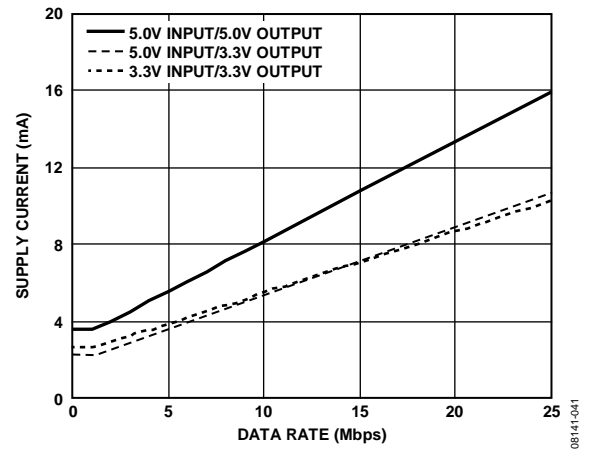
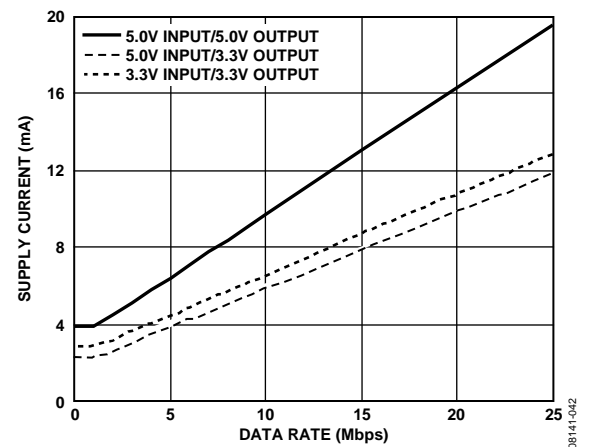

Figure 23. Typical  $I_{CHn}$  Supply Current per Forward Data Channel (15 pF Output Load)
Figure 24. Typical  $I_{CHn}$  Supply Current per Reverse Data Channel (15 pF Output Load)
Both dynamic input and output current is consumed only when operating at channel speeds higher than the refresh rate, f. Each channel has a dynamic current determined by its data rate. Figure 23 shows the current for a channel in the forward direction, which means that the input is on the primary side of the part. Figure 24 shows the current for a channel in the reverse direction, which means that the input is on the secondary side of the part. Both figures assume a typical 15 pF load. The following relationship allows the total IDD1 current to be calculated:
- ICHn is the current drawn by a single channel, determined from Figure 23 or Figure 24, depending on channel direction.
- IISO(D)n is the dynamic load current drawn from VISO by an input or output channel, as shown in Figure 23 and Figure 24 for a typical 15 pF load.